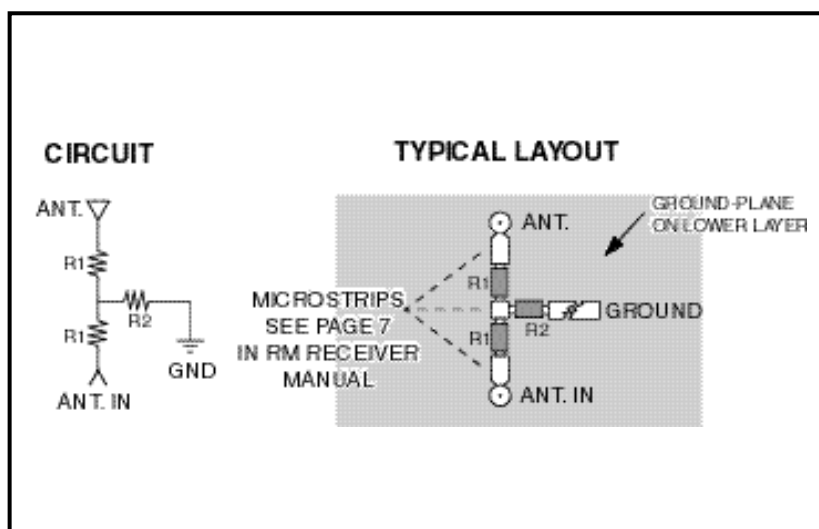

figure 7: Microstrip transmission line
- 5) The trace from the transmitter to the antenna should be kept as short as possible. A simple trace is suitable for runs up to 1/4 inch for antennas with wide bandwidth characteristics. For longer runs or to avoid detuning a high-Q narrow bandwidth antenna such as a helical, use a 50-ohm coax or 50-ohm microstrip transmission line as shown in figure 7.